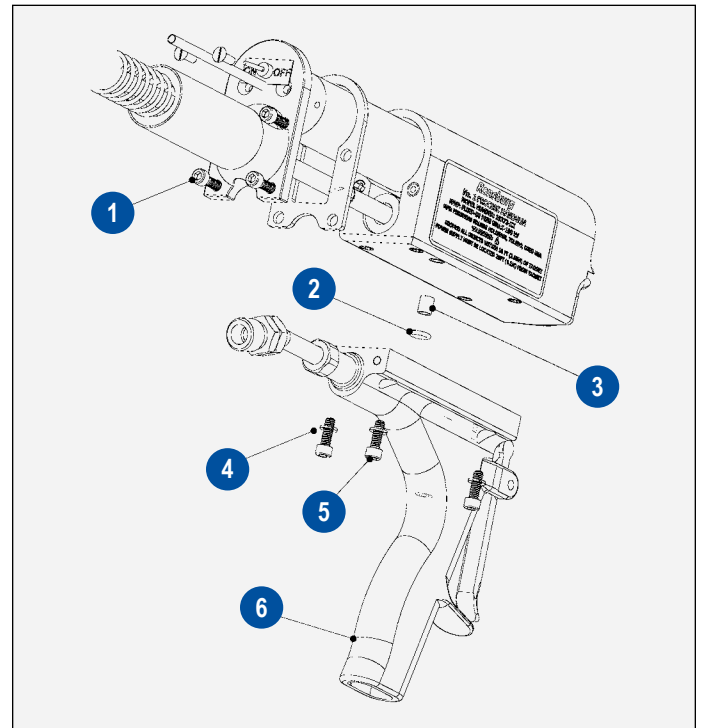

Figure 18: Handle Assembly Removal
- Invert the applicator and remove the (4) socket head cap screws and lock washers from the underside of the handle assembly with a 9/64-inch hex key wrench. Refer to Figure 18.
HANDLE ASSEMBLY REMOVAL (Figure 18)